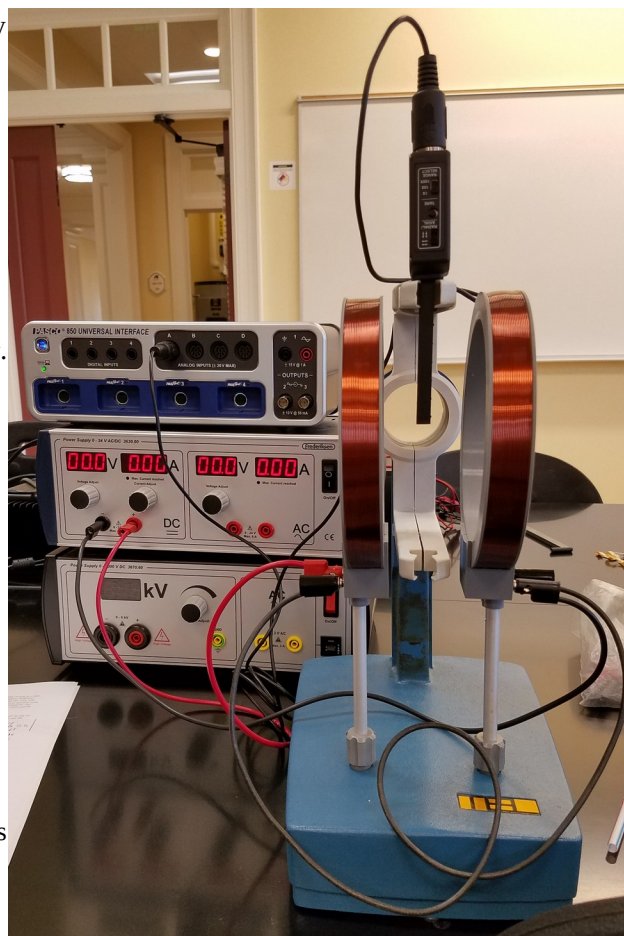

Figure 1: Helmholtz Coil Configuration
1. Carefully set the Hall Probe in the upper arm of the fixture (see Figure 1.) You might use a piece of tape to help secure it in position with the controls facing towards you.
3. Take magnetic field data every 0.2 A by **rotating the voltage knob only**. Enter this data into your table and compare the slope of your graph to equation (5).